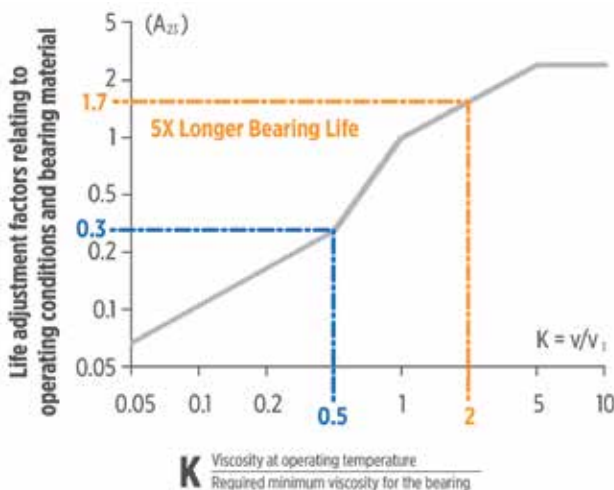

Figure 3: How temperature and viscosity affect bearing life.
- Furthermore, let’s say current conditions normally run at a temperature of 55 C. Using a standard ASTM temperature-viscosity chart for ISO VG 68, the actual viscosity is 34 cSt at that temperature, resulting in $K=0.5$. The service life factor (A_{23}) is 0.3. See Figure 3.
- If we reduce the temperature of the lubricant by 20 C (from 55 C to 35 C), the viscosity rises to 135 cSt and $K=2$ and $A_{23}=1.7$. This 20 degree temperature reduction, using the chart in Figure 3, increases the bearing life estimate by five times (5X). So, in this example, a 20 C reduction in oil temperature translates to five times longer bearing life.